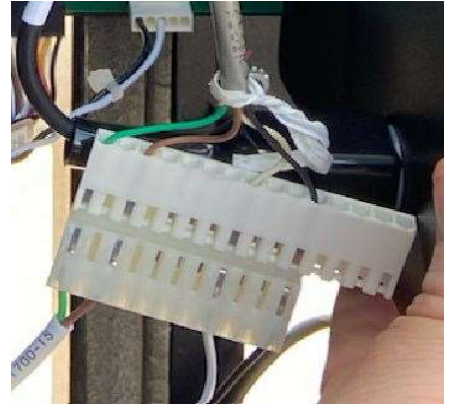

Figure 6
1. Locate the 11 or 15 pin factory sensor harness connection as shown in fig. 6 inside the machine cabinet. The gray wire coming in from the top of the photo is the factory style 15-pin USI sensor harness, the bottom wire shown in Fig. 6 is the 11-pin side of the included 11-1700-36 sensor adaptor cable. On some model machines, typically 3129-3132, they may use a short jumper harness that must be removed first.